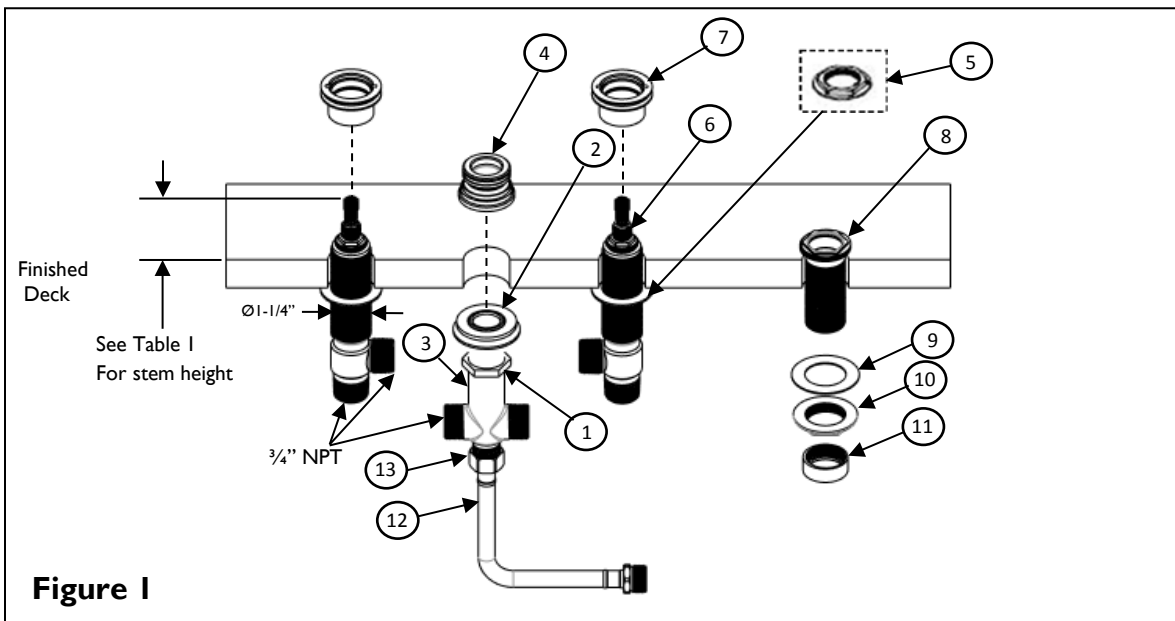

Figure 1
1. Place the mounting NUT (1) and WASHERS (2) on diverter VALVE (3). From underside of deck insert diverter VALVE (3) through appropriate hole of mounting deck. Ensure the spout QUICK CONNECT (4) is hand tightened and bottomed out against the diverter VALVE (3). Tighten the mounting NUT (1). **See Figure 1.**
2. Place lower flange NUT (5) on valve BODY (6). Insert valve BODY (6), (blue cold and red hot), through hole from underside of deck.
3. Use the upper mounting NUT (7) to adjust the stem height of valve BODY (6) from finished deck per Table I. Secure valve BODY (6) into place by tightening the lower flange NUT (5).
4. As shown in **Figure 1**, mount the hand shower deck FLANGE (8) using steel WASHER (9) and flange NUT (10). Place the plastic Hose GUIDE (11) onto lower end of hand shower deck FLANGE (8).